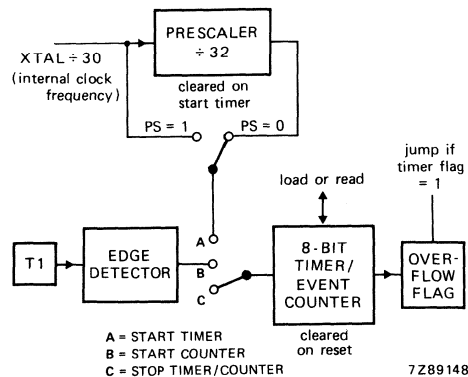

Fig. 20 Timer/event counter.
**Timer/event counter** (see Fig. 20)